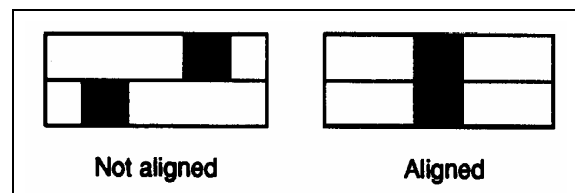

FIGURE 53: HEADLIGHT ALIGNMENT
5. Look through the top port hole of unit A, and turn horizontal knob until split images are aligned. See figure 53.